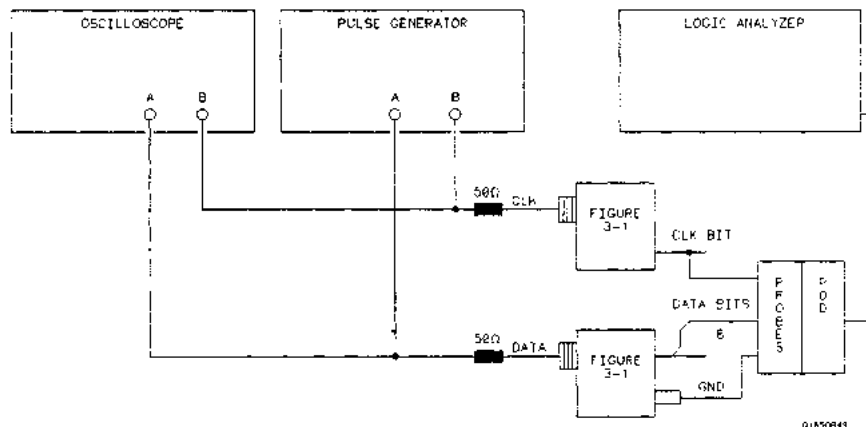

Figure 3-26. Setup for Data Test 6
1. Connect the HP 1652B/1653B and test equipment as in figure 3-26 by connecting channels 0-7 of the pod under test to the test connector. During demultiplexed clocking only the lower eight bits of each pod are used.